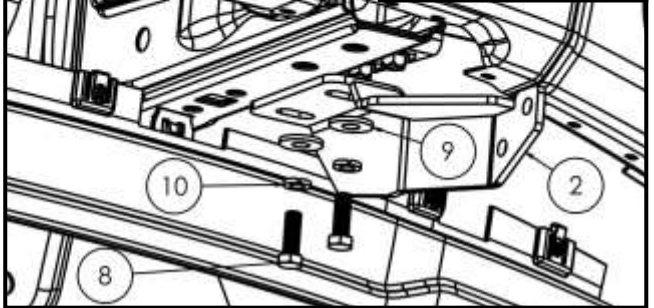

Figure 5
3. For vehicles **with** factory tow hooks: Remove tow hooks and loosely install Lower Mounting Brackets to factory nut plates using supplied M12 hardware as shown in **Figure 4**. Trim screws if they interfere with lower mounting bracket. See **Figure 5**.
4. For vehicles **without** tow hooks: Slip double nut plates into frame and line up with existing holes. See **Figure 3**. Loosely install the Lower Mounting Brackets using the supplied M12 hardware as shown in **Figure 4**. Trim screws if they interfere with lower mounting bracket. See **Figure 5**.